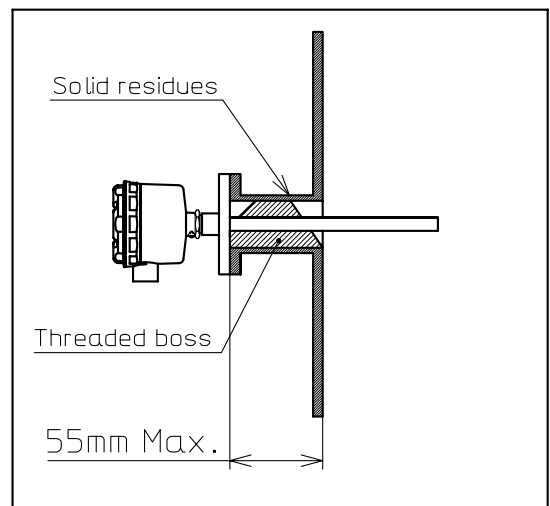

Fig.6-10
- (10) The detecting pipe $\phi 16.0 \times L175\text{mm}$, shall not contact with hopper wall or bottom.
- (11) For the VC12, maximum length for the mounting nozzle or threaded boss is 55mm. If exceeds 55mm, the sensor will detect dead stock or solid residues. Refer to Figure 6-10.
- (12) Do not use the sensor where corrosive gases generate. The electronics in the housing may be corroded and damaged by the corrosive gases (NH_3 , SO_2 , CO_2 , and so on).